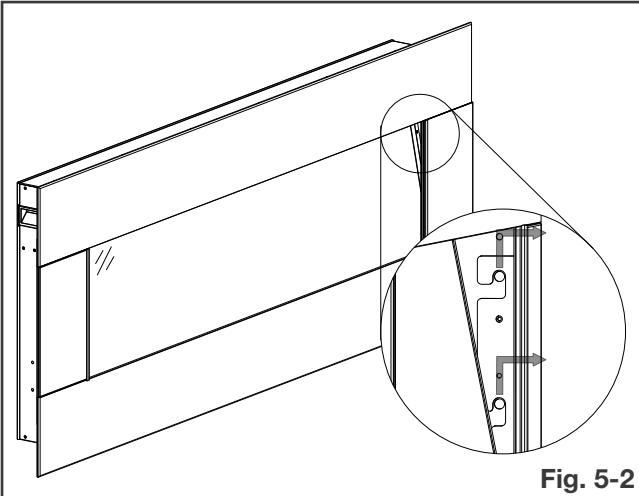

Fig. 5-2
- Lift the front surround up and out from the appliance (**Fig. 5-2**).